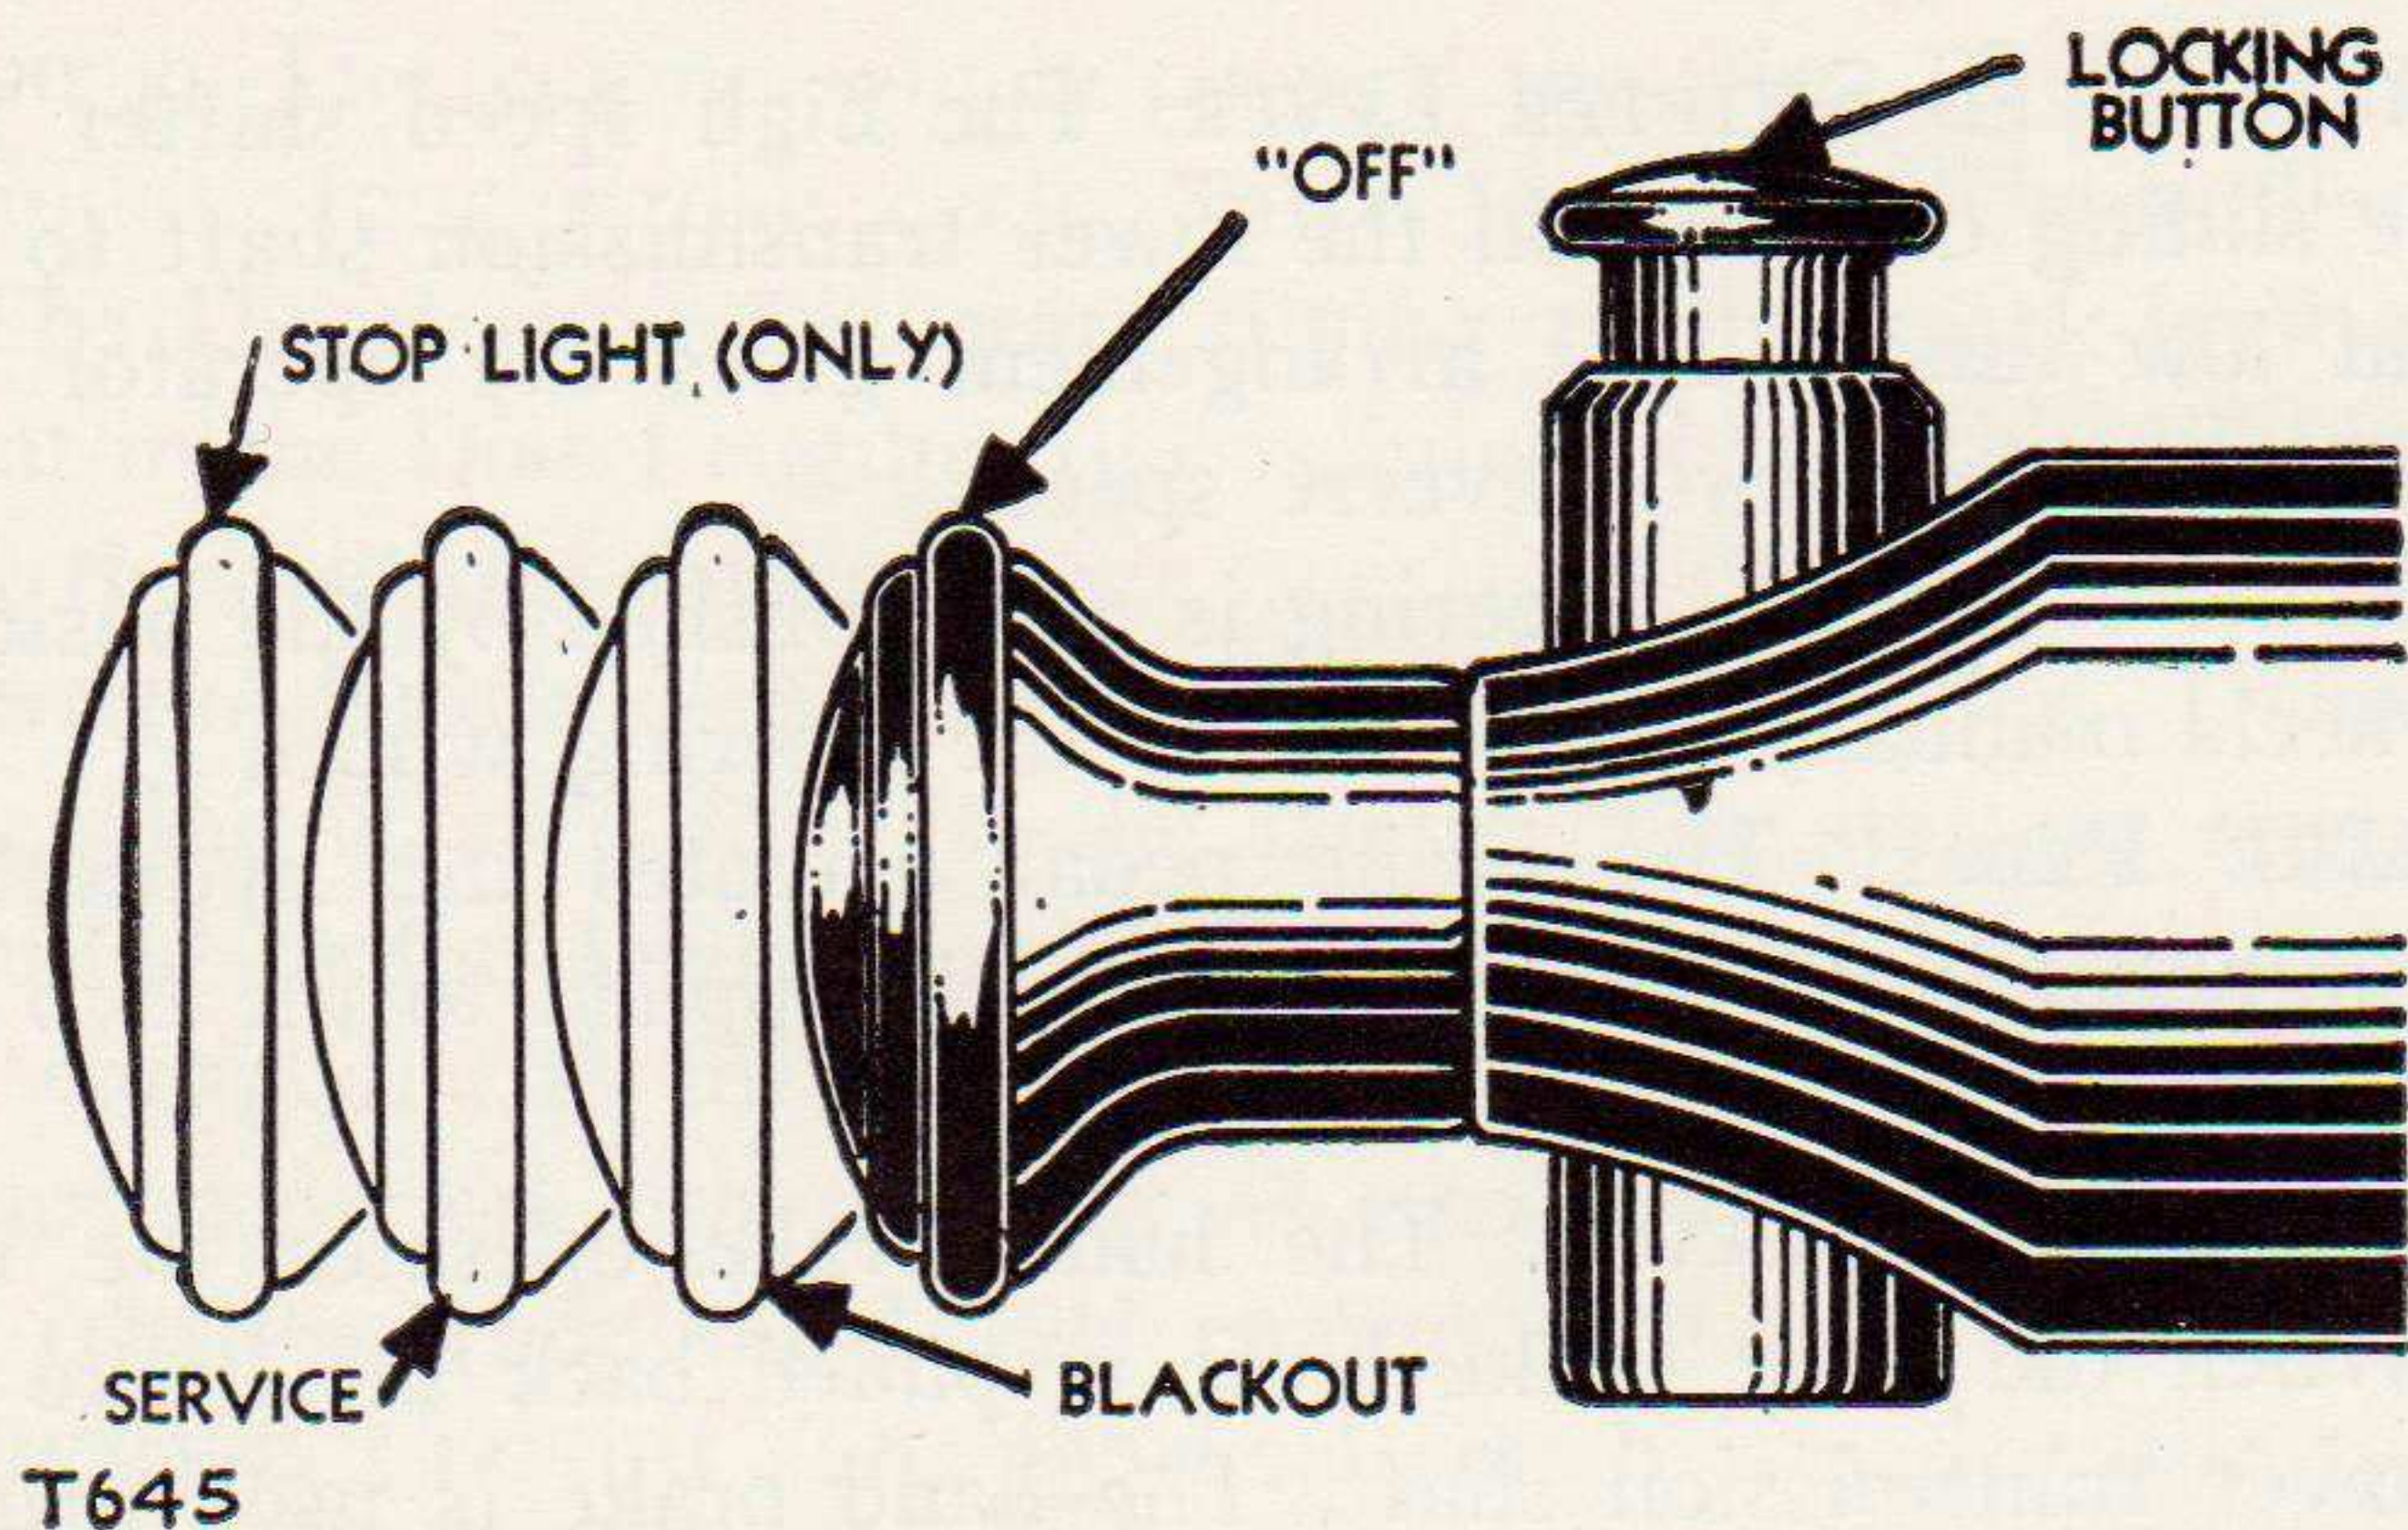

Figure 14. Details of light switch.
*i.* MAIN LIGHT SWITCH. (See fig. 14.) The main light switch, located on the instrument panel, is a four-position push-pull type switch which controls both service and blackout head lights, service and blackout stop and tail lights. The switch is equipped with a circuit breaker type fuse which automatically opens the circuit when a short occurs and automatically closes the circuit when the thermostatic element in the circuit breaker cools off. The switch operates in the following manner.
- (1) *Off position.* When the switch control button is pushed completely in, all lights, both service and blackout, are turned off. The blackout and service stop lights cannot be operated with the switch in this position.
- (2) *Blackout position.* When the switch button is pulled to first stage, the blackout head lights and blackout stop and tail lights are energized. The button is locked in place with automatic plunger type lock when pulled to this position.
- (3) *Service position.* The switch locking button at left of switch body must be depressed before the switch button can be pulled to second stage or service position. When the switch is in the service position, service head lights, service stop and tail lights, and instrument panel lights are energized.
- (4) *Service stop light position.* When the switch button is pulled completely out, the service stop lights may be operated for daylight service.